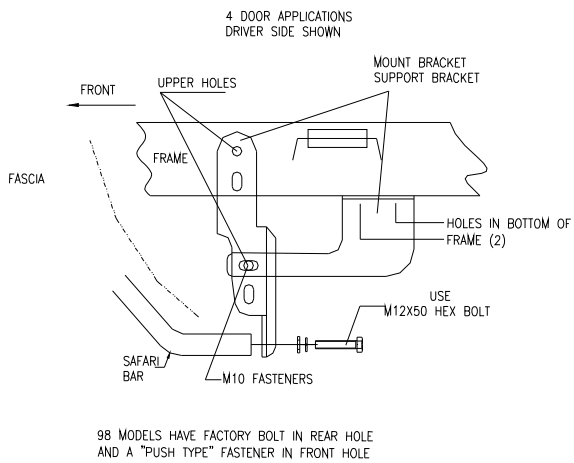
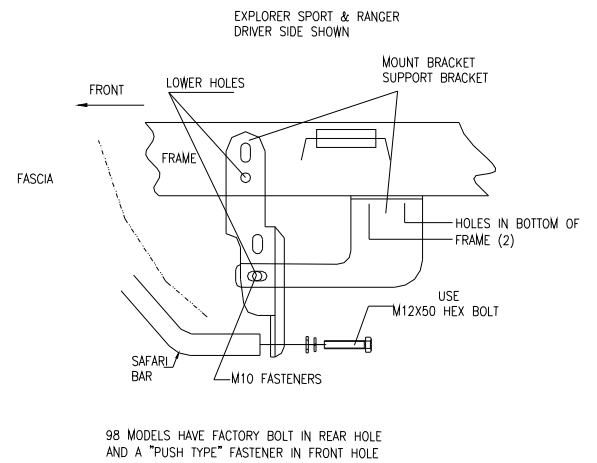

FIGURE 1
FIGURE 2
- STEP3. Install Mount Brackets on the outside face of frame members with M12 × 100 Hex Bolts. NOTE: 4 Door applications use upper holes. See Figure1. NOTE: Explorer "sport and Ranger uses lower holes. See Figure2. Secure with Backing Plates and 1/2" fasteners. See Figure3 Leave loose.
- STEP4. Install Support Brackets using holes in bottom face of vehicle frame. '96-'97; Secure to frame using M10 Self Tap Bolts. See Figure 1 and 2. '98; Vehicles have a factory bolt in rear hole to hold Radiator Shroud. See Figure 1 and 2. Remove with 10mm Socket. Remove "push type" fastener holding rear of shroud to frame. Install Support Bracket between top of shroud and frame. Replace factory bolt. Replace push type connector with M10 Self Tap Bolt. Leave loose.
- STEP5. Secure Support Bracket to Mount Bracket using M10 fasteners. See Figure 1 and 2 .